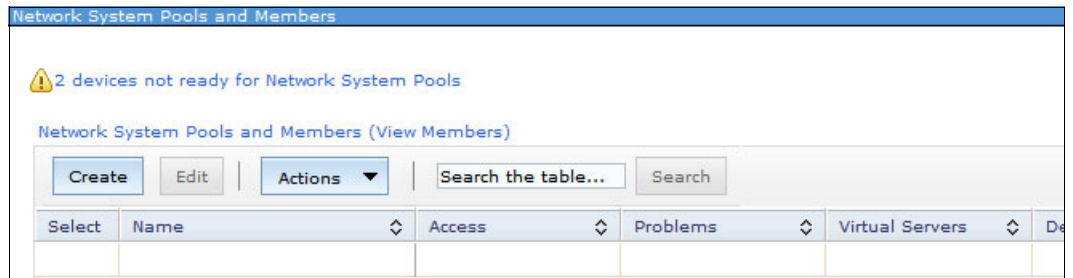

Figure 9-78 Network System Pools and Members window
2. In the Network System Pools and Members window, click **Create** to create the new network system pool, as shown in Figure 9-78.